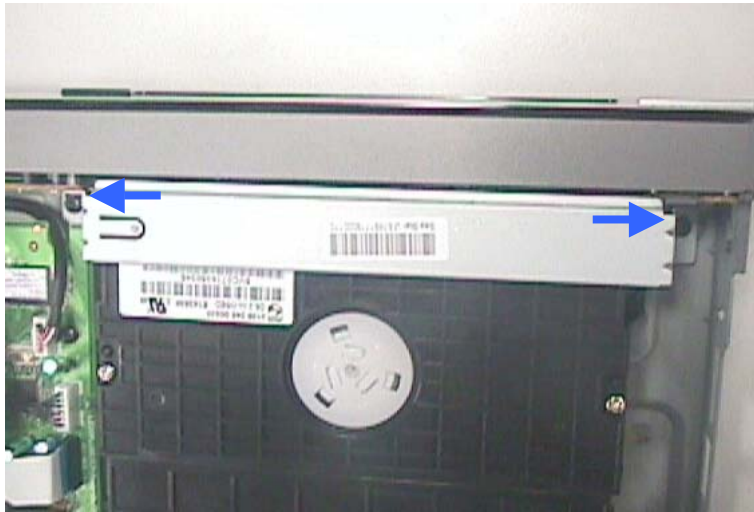
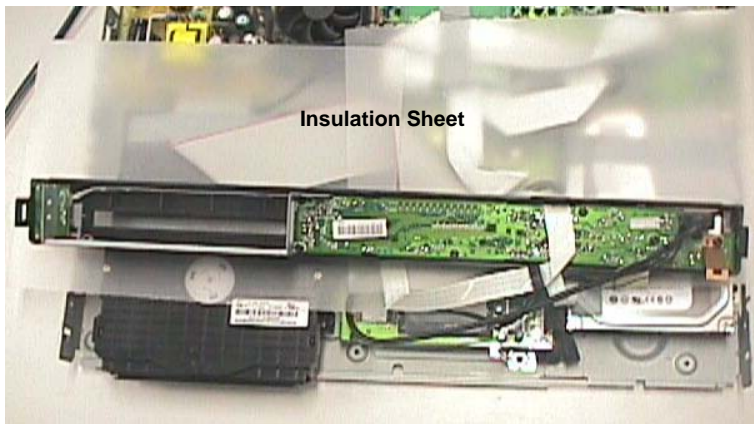

Figure 3 – Unscrew the screws to detach front panel
Figure 4 - Front Panel Service Position
- 2) Remove screws to loosen the Plate Front Loader 183 and detach the Front Assembly 0901 as shown in Figure 3. The Front Panel Service Position is shown in Figure 4.